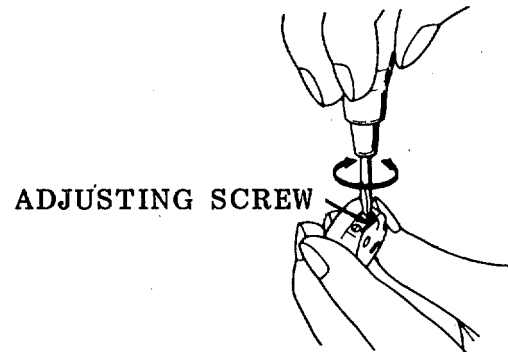

Figure 2-34. Bobbin Thread Tension, Adjustment.
- (2) Bobbin Thread Tension. Refer to Figure 2-34. Remove the bobbin case (para.2-12d). Adjust the bobbin thread tension with the adjusting screw. Turn the screw to the right to increase tension, and to the left to decrease tension.